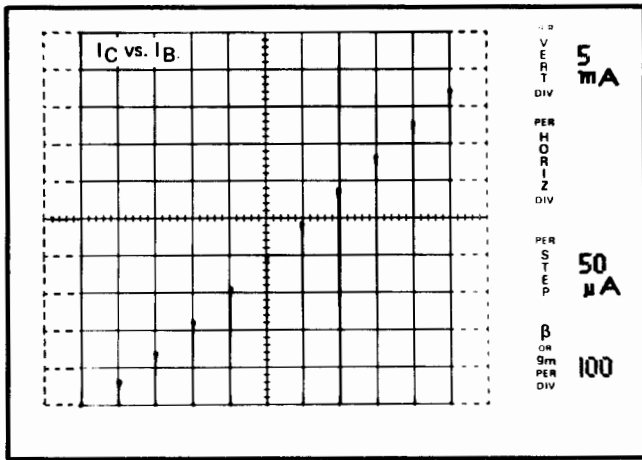

Fig. 2-6. Display of I vs. V for a 1 kΩ resistor using various settings of the VERTICAL and HORIZONTAL switches.
17. Turn the VERTICAL switch clockwise and note that as the vertical deflection factor decreases the slope of the line increases (see Fig. 2-6). Turn the VERTICAL switch counterclockwise from the 1 mA position and note that the slope decreases. Also note that the PER VERT DIV readout changes in accordance with the position of the VERTICAL switch. Reset the VERTICAL switch to 1 mA.